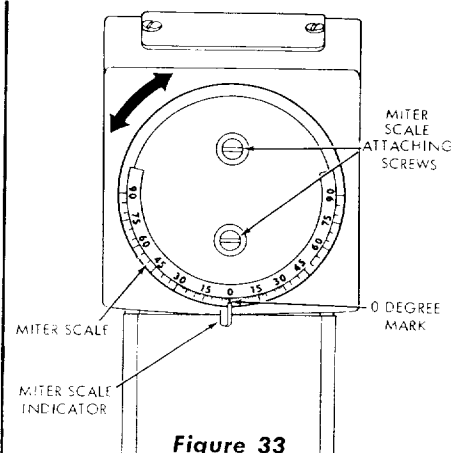

Figure 33
- i. Loosen the two miter scale attaching screws (figure 33) and rotate the miter scale until the 0° mark is aligned with the indicator. Tighten screws and recheck.